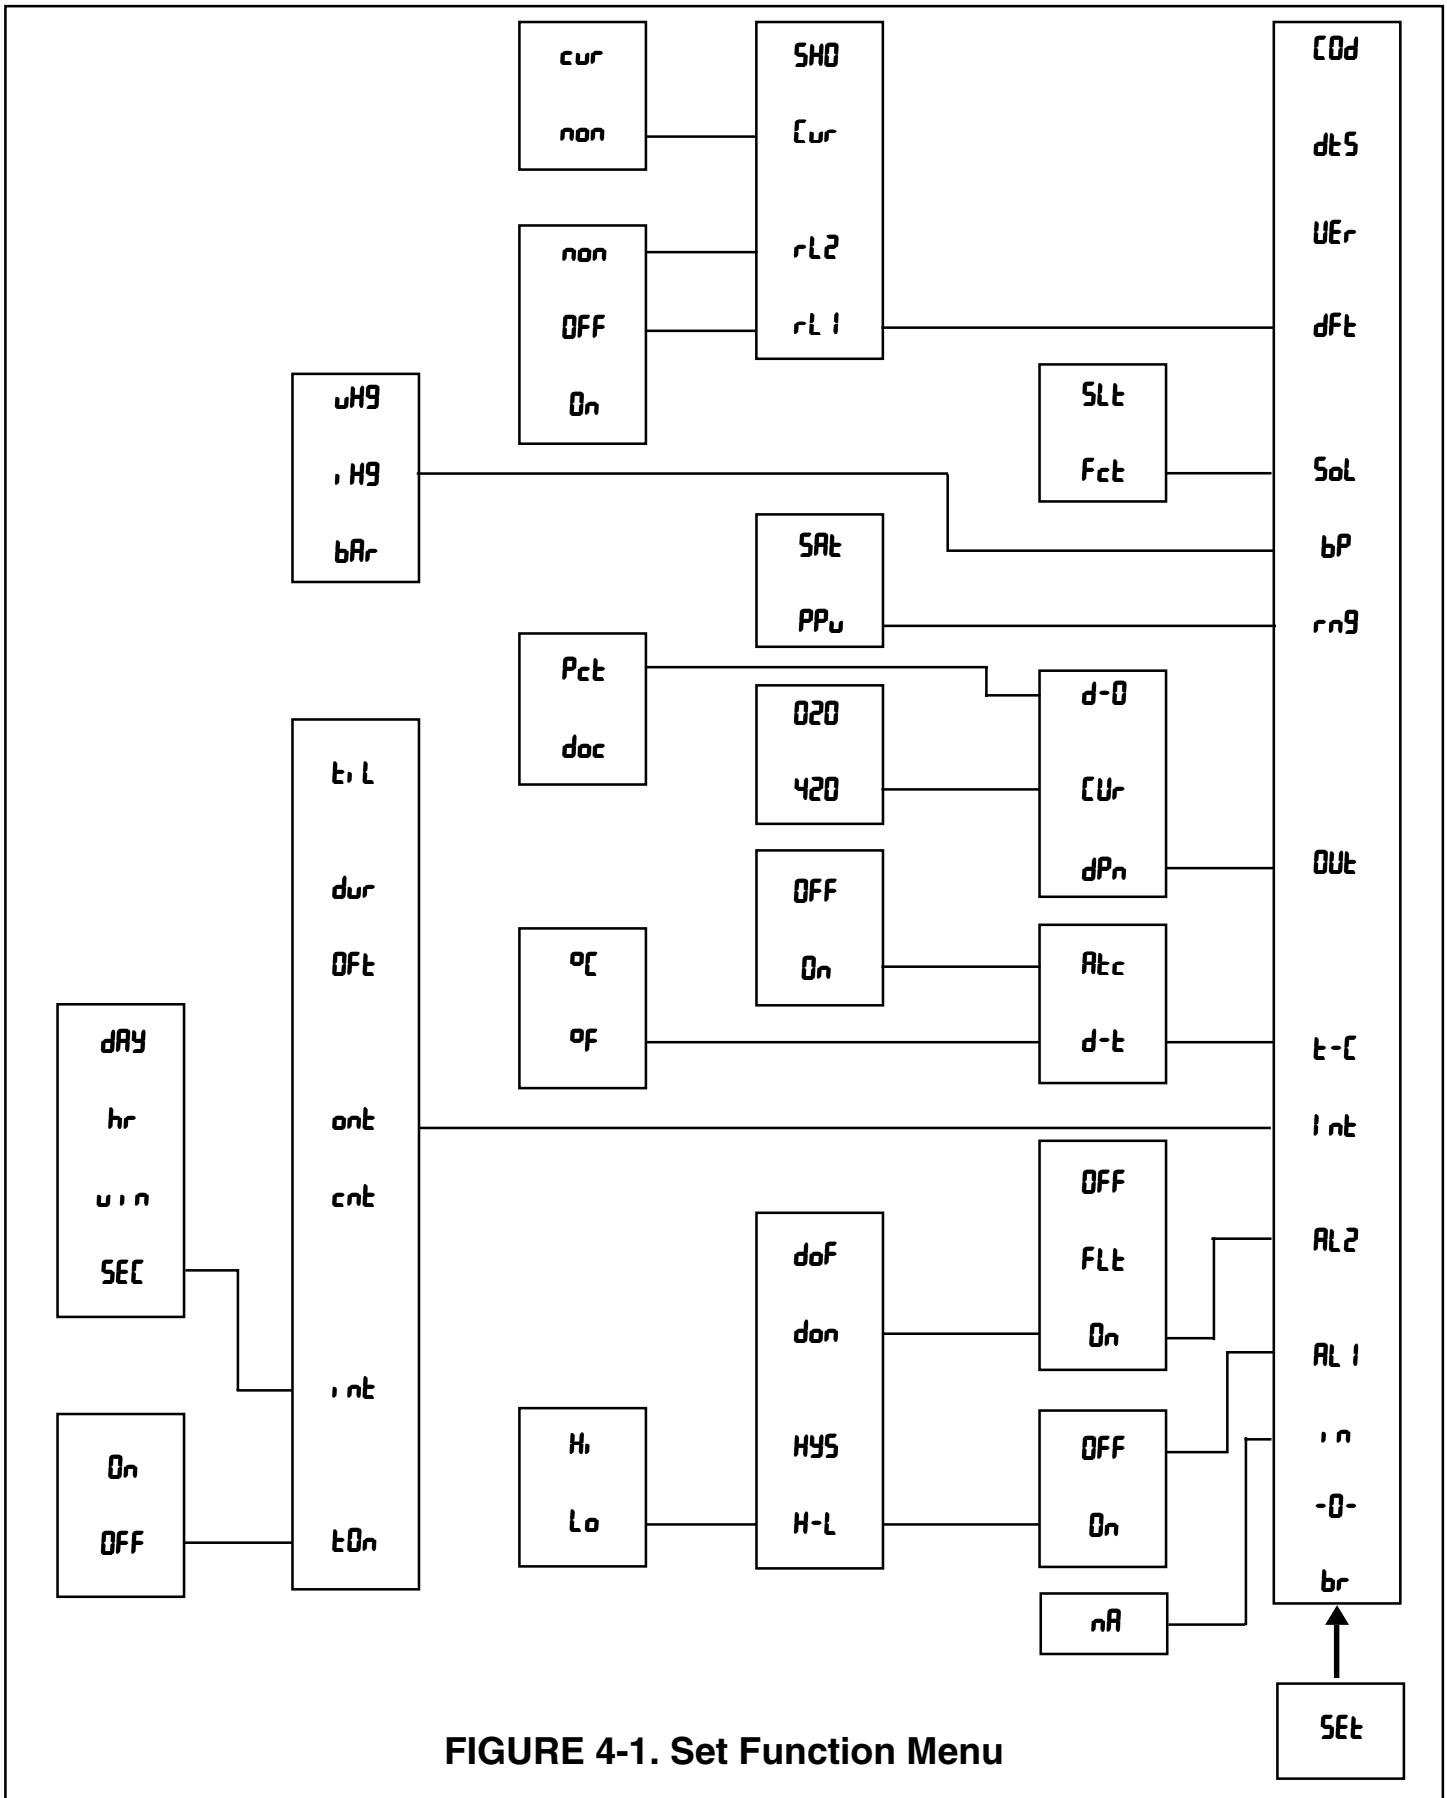

FIGURE 4-1. Set Function Menu
3.2.2 Set Functions. Refer to Figure 4-1, Set Function Menu. This guide will assist in navigating through the various functions in the set menu.
3. Now use the **SELECT (◀)** and **SCROLL (▲)** keys to reach the last sublevel function, vertically and to the left, for each of the first level functions. Follow the diagram shown in Figure 4-1, Set Function Menu.
4.1 GENERAL. This section details all of the items available in the Set Mode and the setpoint adjustment procedures to configure the MODEL 20-03 Dissolved Oxygen Transmitter. Refer to Table 3-3 and Figure 4-1.
4.1.1 Set Mode “SET”. Most of the transmitter’s configuration is done while in the Set Mode. Please refer to Figure 4-1 for the layout of all menu items. All menu variables are written to the transmitter’s EEPROM (memory) when selected and remain there until changed. As these variables remain in memory even after the transmitter’s power is removed, the transmitter configuration may be performed prior to installing it.